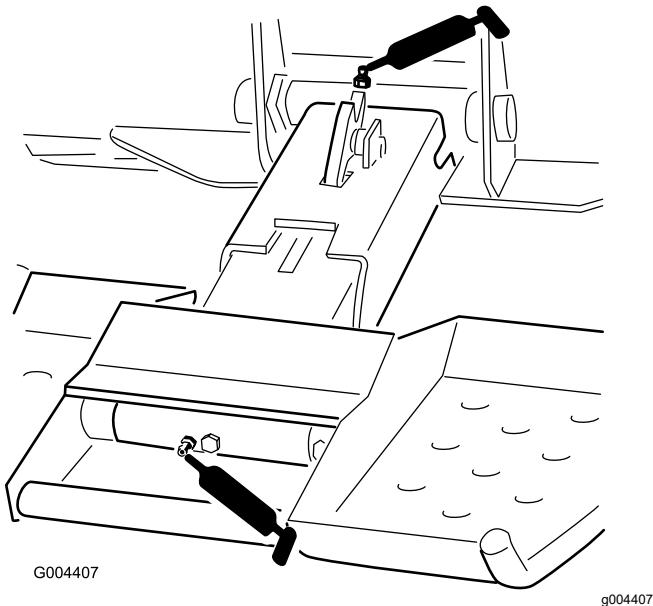

Figure 36
4. Connect a grease gun to each fitting (Figure 36).